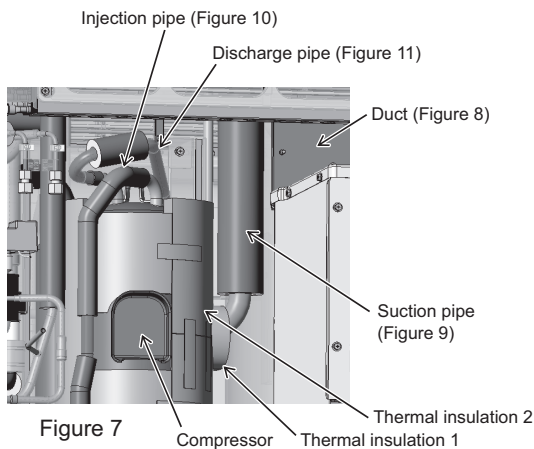

Figure 7
- (7) Remove thermal insulation 1 and thermal insulation 2. (See Figure 7.)